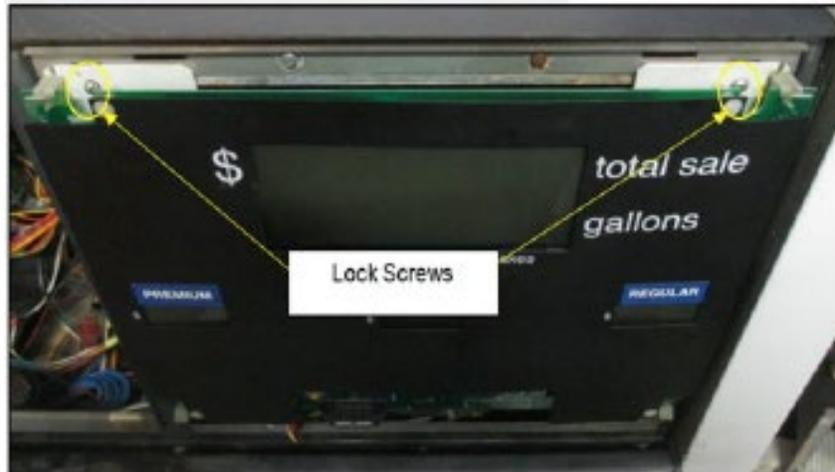

Figure 88
- a) Push up and Re-fasten the Money/Volume Display Assembly to the Dispenser Frame. See Figure 88